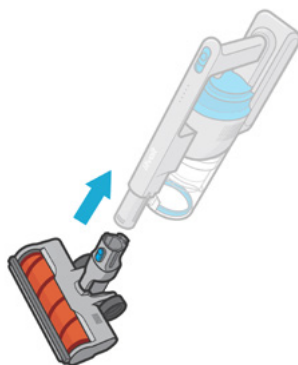

Figure 2.4
**Note:** You can also attach the vacuum body directly to the vacuum head [\[Figure 2.4\]](#).